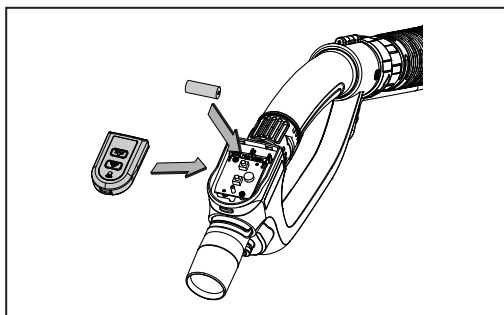

FIG. 26
2. Remove the cover and fit the battery – ensuring the correct +/- orientation (FIG. 26).